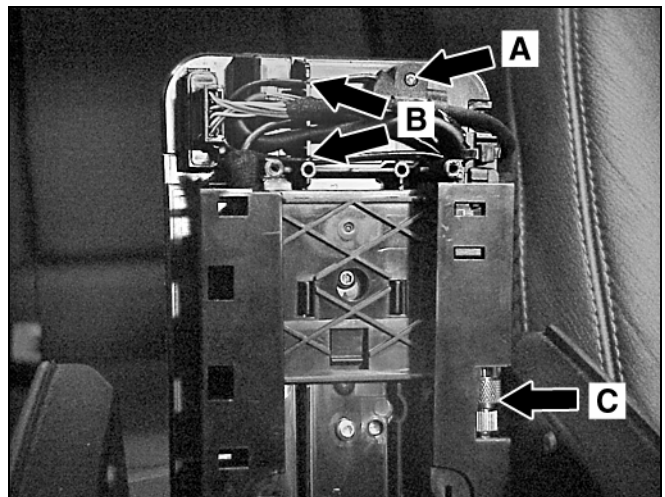

Figure 12
13. Place the coil-cord anchor over the base plate peg (A, Figure 12).
14. Route the mini-UHF coaxial cable through the outer channels of the base plate (B, Figure 12).
15. Connect the mini-UHF coaxial connectors and place the connector assembly in the holding-clip (C, Figure 12).
16. Connect the coil-cord power connector by pushing it in until it snaps into place (A, Figure 12).